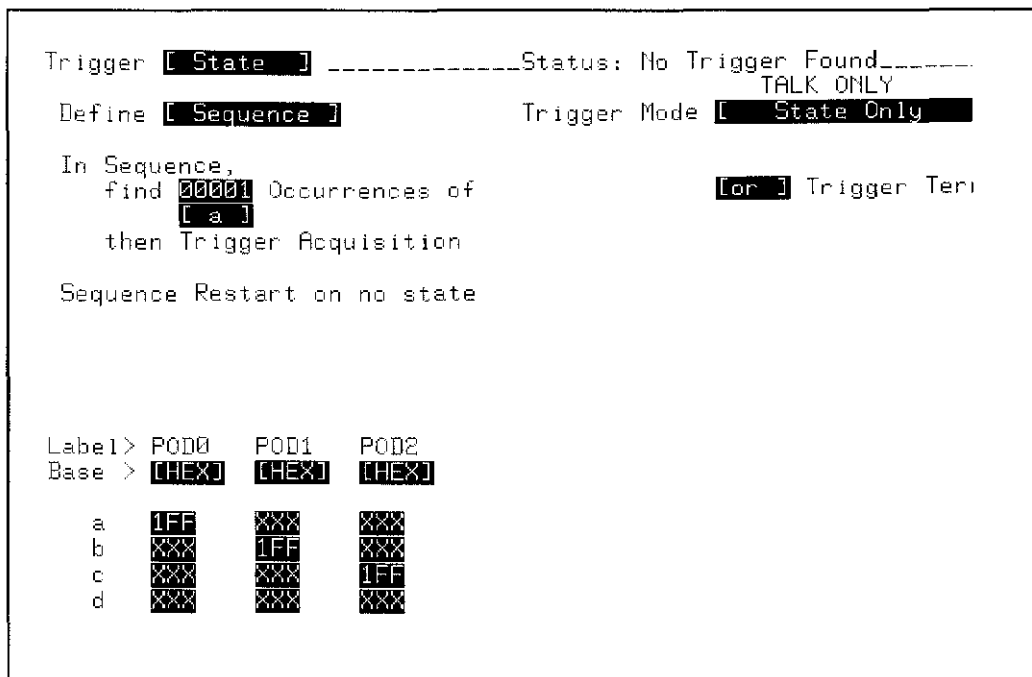

Figure 3-26. TRIGGER State / Define [Sequence] Menu
5. Configure the TRIGGER State / Define [Sequence] menu as shown in figure 3-26.
19. Reconfigure the TRIGGER State/Define [Sequence] menu in figure 3-26 with "Occurrences of [ b ]".
22. Reconfigure the STATE Sequence menu in figure 3-26 with "Occurrences of [ c ]".